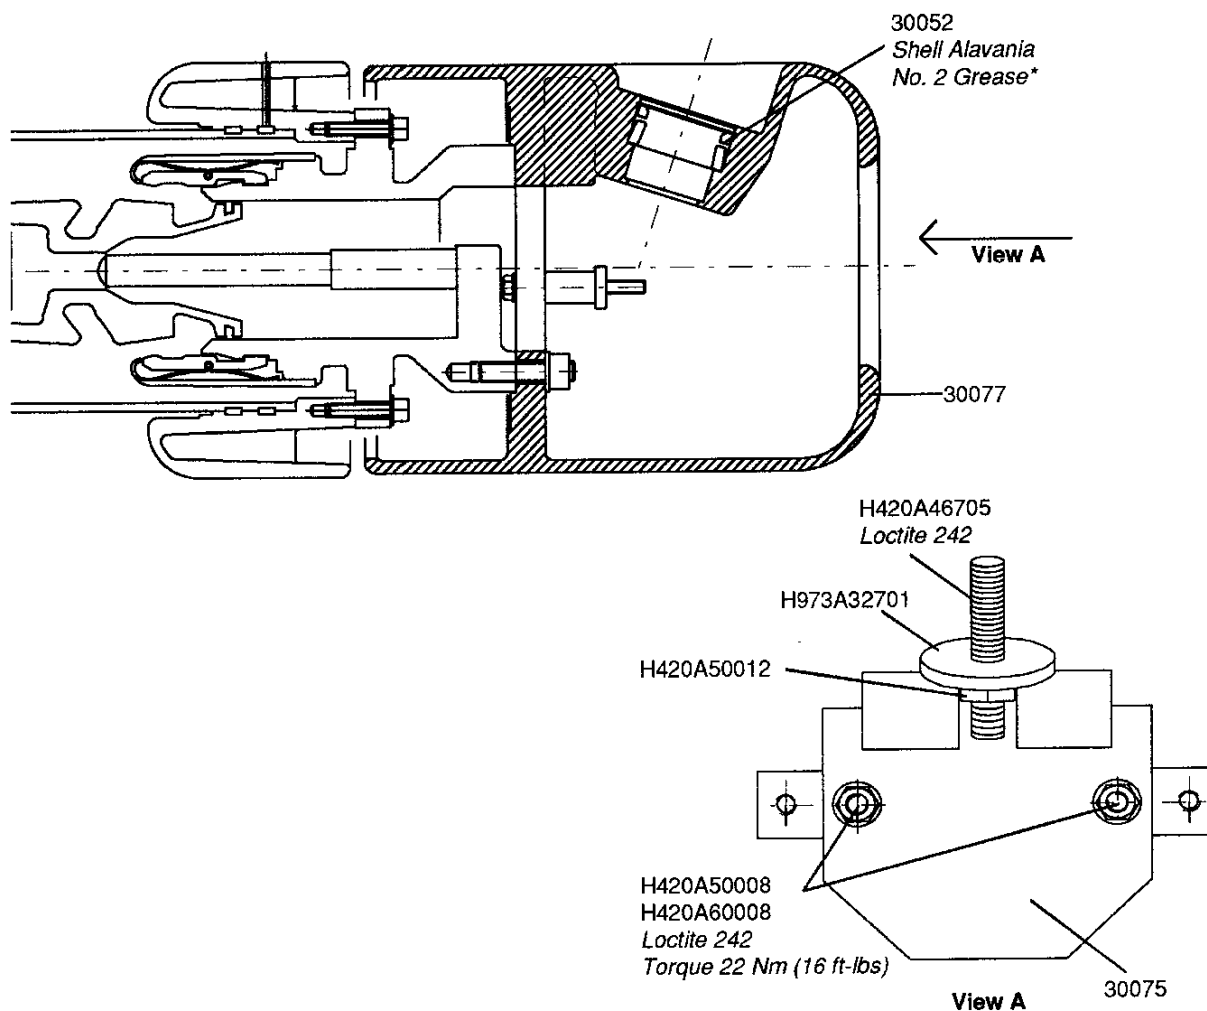

Figure 5
13. Install the M12 nut H420A50012 (Fig. 5) and washer H973A32701 that connect the bushing conductor 20001 to the rear exhaust shield 30077. Apply Loctite 242 and tighten the nut until it is **snug only** (hand-tighten plus 1/4 turn).
**Do not overtighten nut H420A50012. This nut is intended only to support the interrupter. If the nut is overtightened, undue cantilever stress will be applied to the interrupter support tube which could cause mechanical failure of the tube. The nut is locked into position by the deflector 30075 (Fig. 5) and cannot turn loose.**